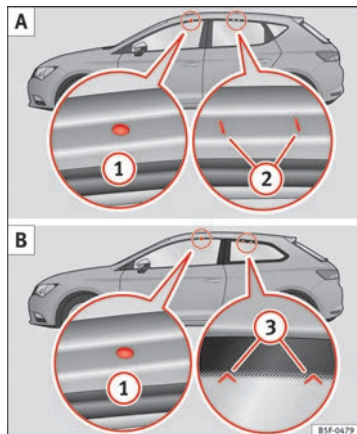

Fig. 114 Leon/Leon SC: attachment points for the roof railings for the roof carrier system.
The front and rear attachment points ① and ② are only visible when the doors are open → Fig. 114 A.
The front and rear attachment points ① are only visible when the doors are open. The rear attachment points ③ are marked on the top edge of the glass with arrow heads → Fig. 114 B.